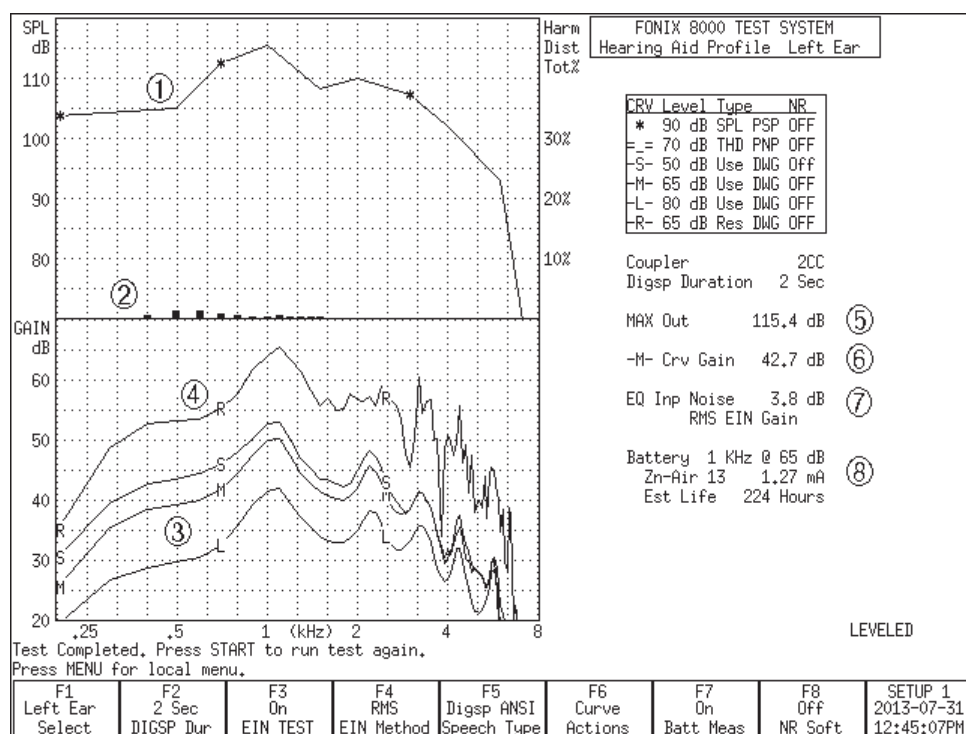

Figure 5.5: Completed Profiler Test Sequence
7. Press [START] to perform the Profiler test sequence. See Figure 5.5.